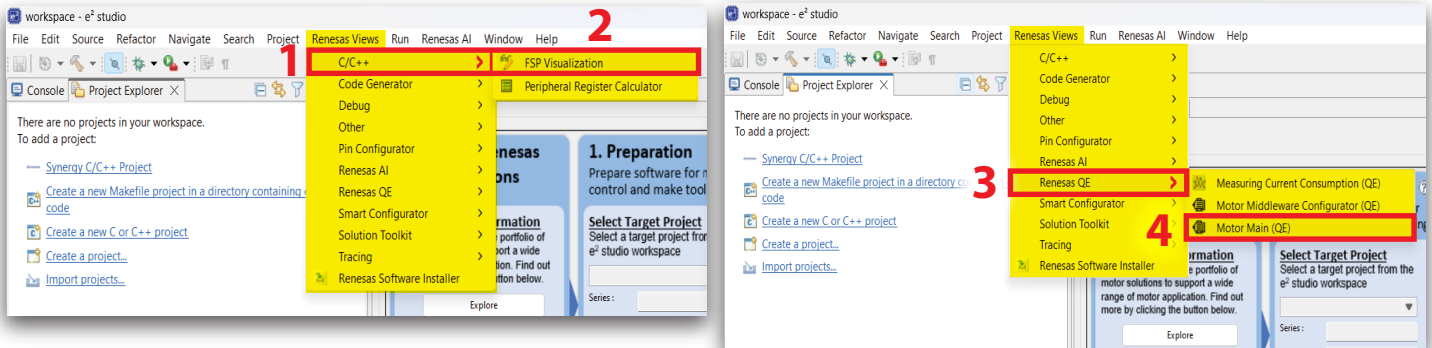

Figure 10: e² studio QE Motor and FSP enable
3. Open **QE Motor** and **FSP visualization** as shown in figure 10. At this point the FSP window may be empty and the QE Motor window may not display. In that case proceed to next step.